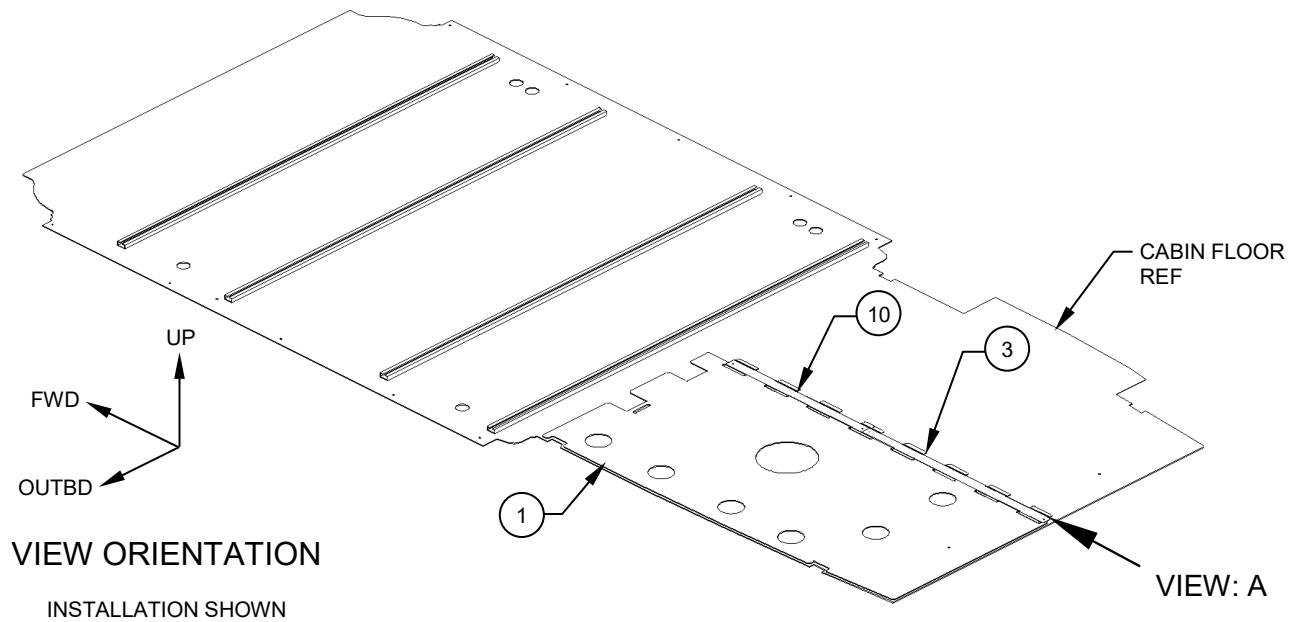

**Figure 2**
2. Remove and discard the two most OUTBD fasteners common to the access panels near the AFT end of the cargo area. Remove and retain fasteners along cargo door sill. Reference Figure 2.